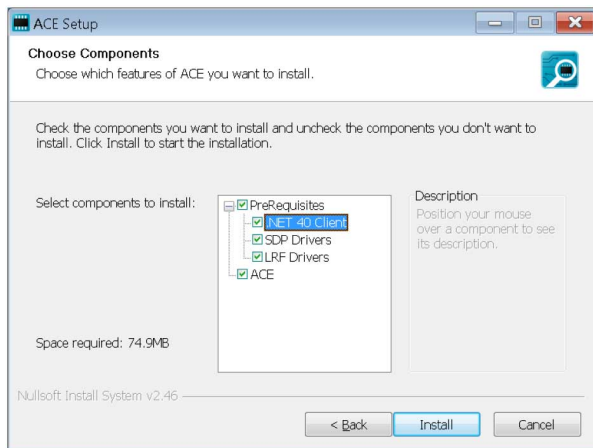

Figure 3. Required Driver Installations with the ACE Software
3. Install the latest version of the ACE software. During installation, ensure that the **.Net 40 Client**, **SDP Drivers**, the **LRF Drivers** installations are checked off as well (see Figure 3).